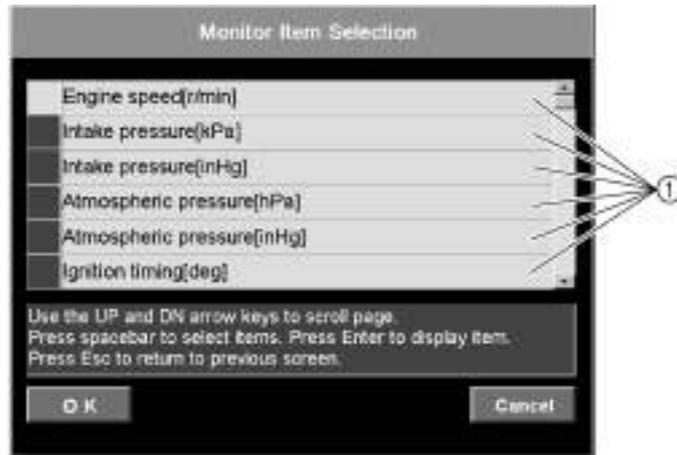

Fig. 38
3. Select an item by either clicking it or pressing the up or down arrow keys on your keyboard, and then press the space bar. (Fig. 38)
4. Click the **OK** button or press the Enter key on your keyboard. The **Engine monitor** window appears. To cancel the monitor, click the **Cancel** button or press the Esc key on your keyboard. (Fig. 38)